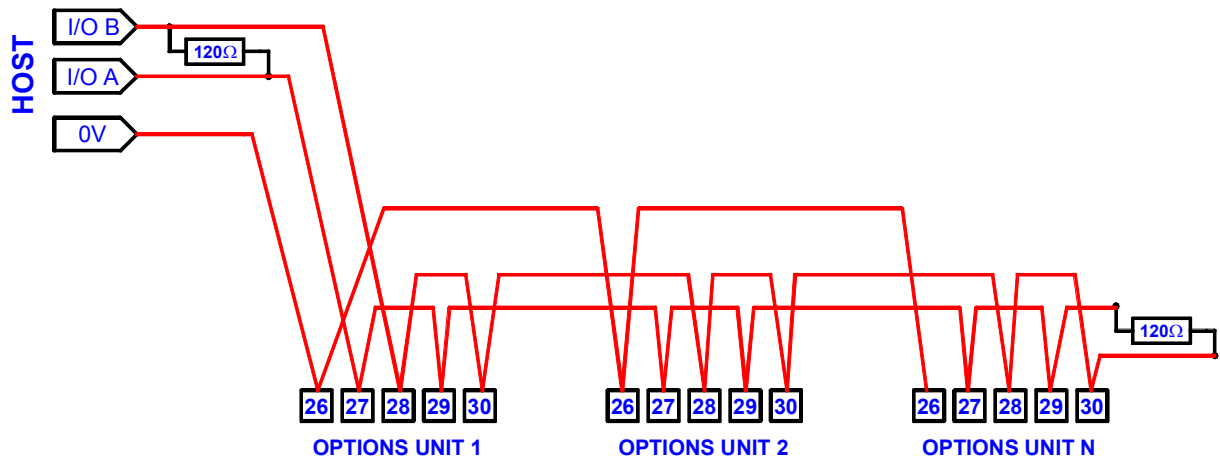

Figure 5.4 RS485 Multi-Drop Connection
It is recommended that screened twisted-pair cable be used for RS485 connection in order to minimise signal errors due to noise. An optional third wire, connecting the common (0V) at each unit, is recommended for optimum performance. The cable screen should be connected to the connector housing (ground) at the host (PC) only. To reduce cable reflections over long distances, RS422/485 systems require line termination. This is achieved by fitting two  $120\Omega$  terminating resistors as shown in Figure 5.4. One resistor should be fitted at the Host input/output buffer and the other at the buffer of the most remote device.